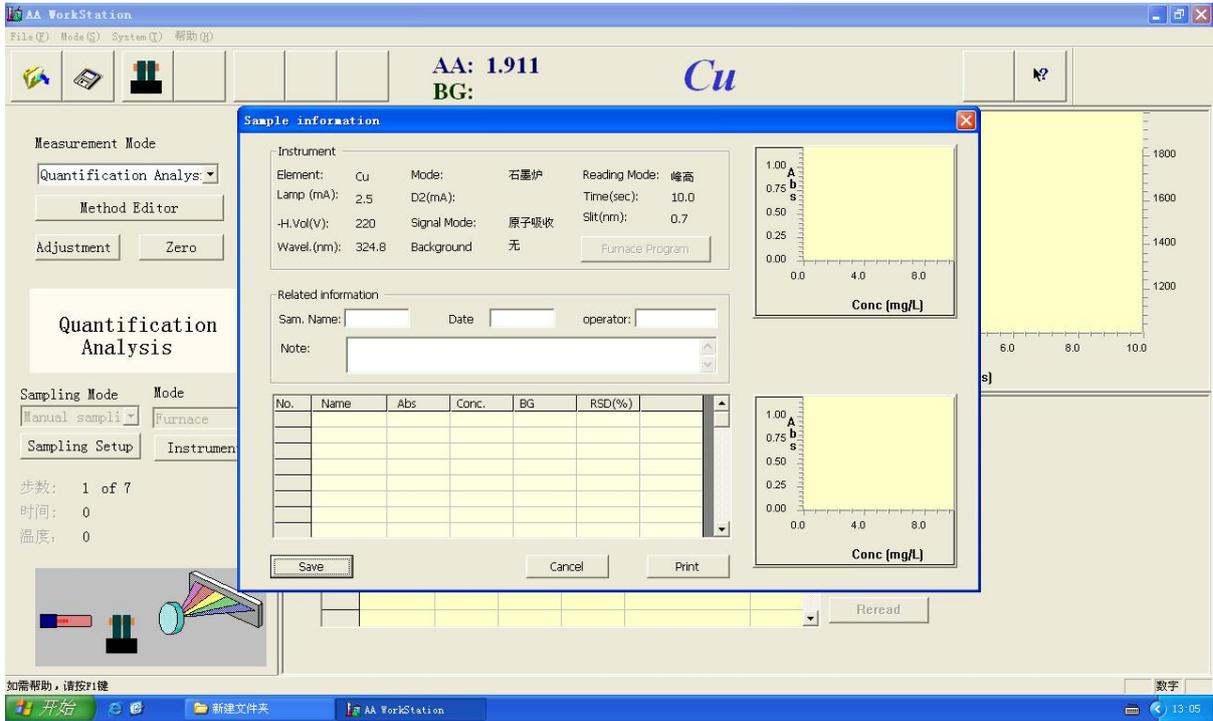

Figure 4-33
b.The “Sample Information” dialog box pops up shown as the Figure4-33